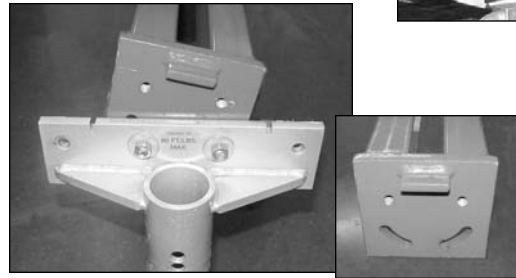

Figure 7
**IMPORTANT:** Some setups may require rotation of crossbar to match slope of attachment or rail. To do this, use curved slots at end of crossbar. (See Figure 7 and its Inset.) Place one washer between bolt head and anchoring stand mounting surface and another between nut and mounting surface of crossbar.